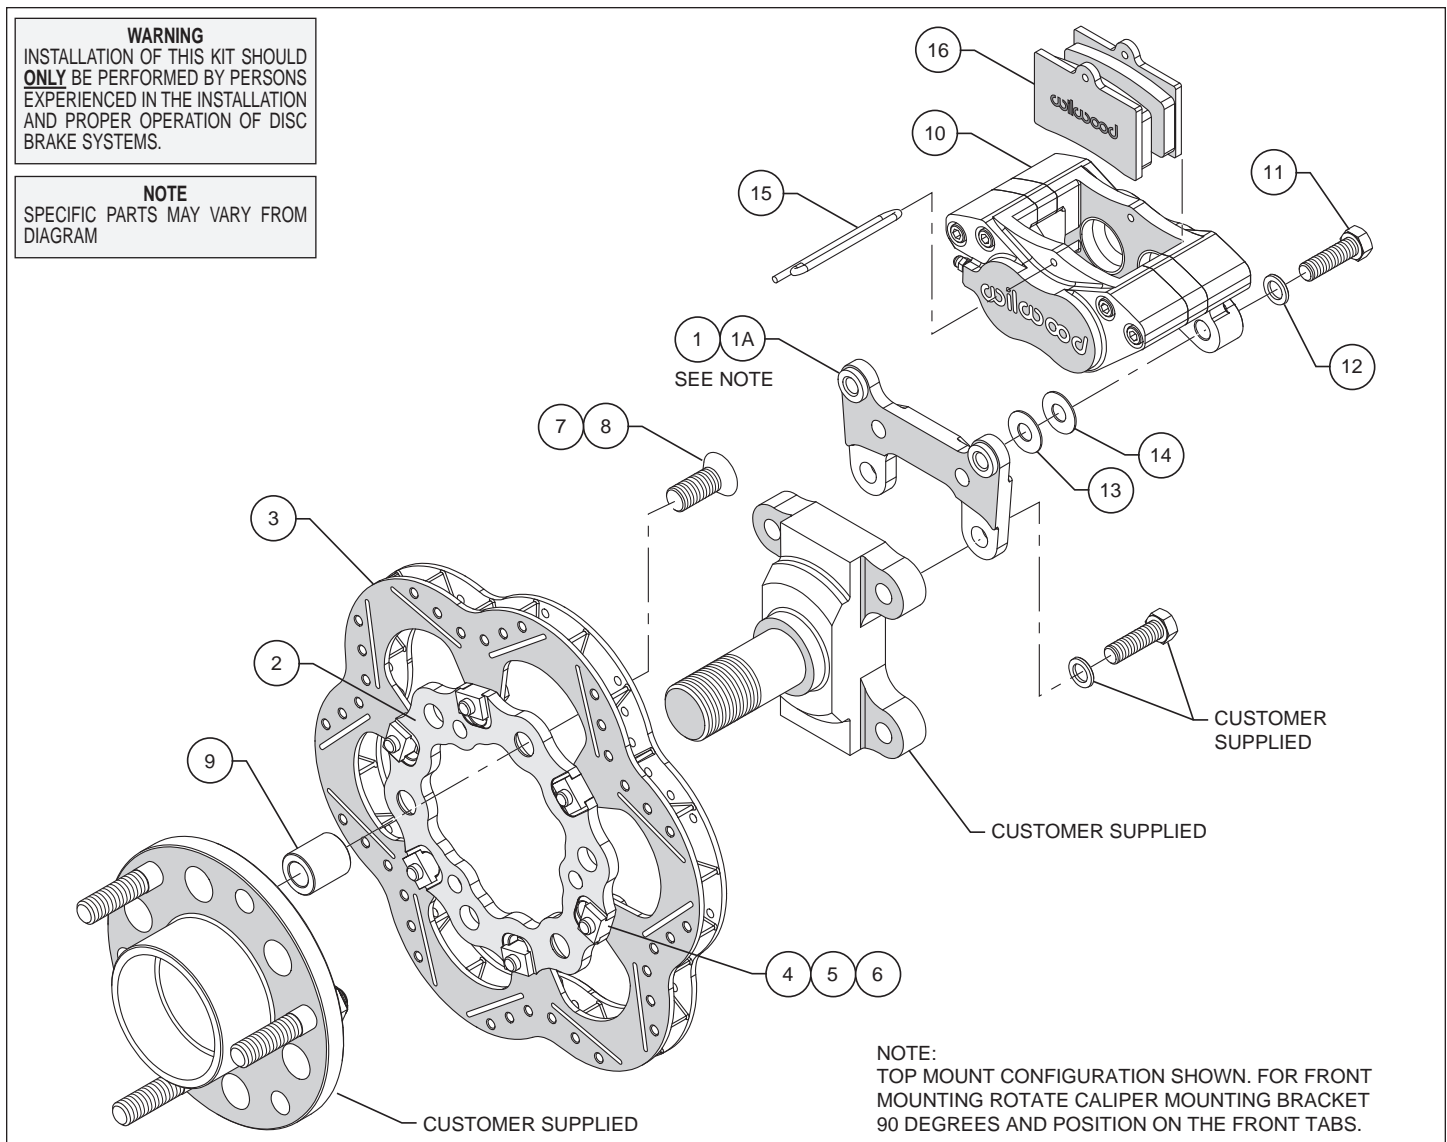

Figure 1. Typical Installation Configuration
**Assembly Instructions** (numbers in parenthesis refer to the parts list and Figure 1 on the preceding pages): **CAUTION:** *All mounting bolts must fully engage insert nuts.* Be sure to check that all bolts are either flush or protruding through flanged side of insert nut after shimming while making sure all other mounting bolts fully engage threaded holes, where applicable.
- Install the caliper mounting bracket (1 for front mount) or (1a for top mount) onto the inboard side of the spindle mounting tabs using customer supplied bolts and washers by first coating bolt threads with red *Loctite*® 271 and sliding bolt through washer, then through caliper mounting bracket and thread into the tabs on spindle as shown in Figure 1. The bracket must tighten squarely against the inboard side of the spindle mounting tabs. Inspect for interference from casting irregularities, machining ridges, burrs, etc. Torque bolts to specification.
- With the T-notches of the rotor adapter (2) facing away from the rotor (3), attach adapter to rotor using bolts (4), washers (5), and t-nuts (6) as shown in Figure 1. Finger tighten. After all t-nuts have been installed, torque bolts in an alternating sequence to 220 ± 20 **in-lbs** (~19 ± 1 ft-lb). Please refer to Wilwood's data sheet DS-669 (available at [www.wilwood.com/Pdf/DataSheets/ds669.pdf](http://www.wilwood.com/Pdf/DataSheets/ds669.pdf)) for complete t-nut bolt kit installation instructions.